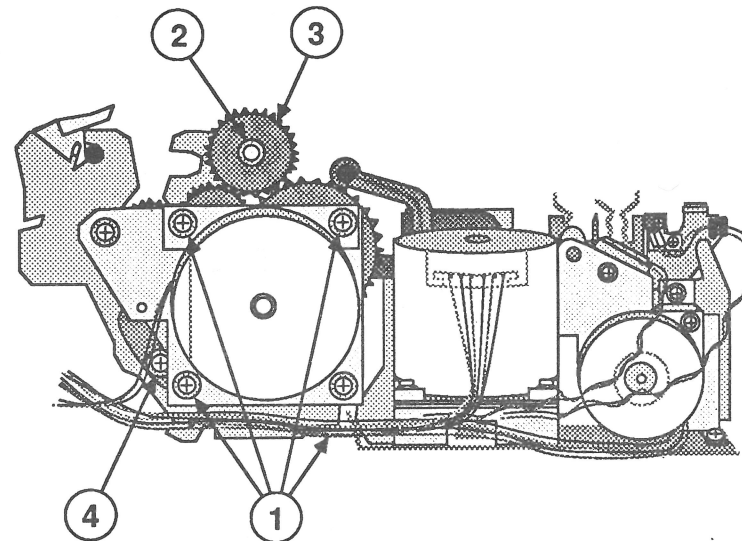

FIGURE 59
2. Remove the four Phillips screws securing the paper feed motor and bracket to the mechanical assembly (Figure 59, #1). Set the motor on the work surface next to the mechanical assembly.
3. Using the grip-ring pliers or the small screwdriver, remove the E-ring (Figure 59, #2) securing the idler gear (Figure 59, #3) and the upper portion of the gear linkage assembly to the upper post on the mechanical assembly. Remove the idler gear.
4. Remove the Phillips screw securing the lower portion of the gear linkage assembly to the release lever shaft (Figure 59, #4).